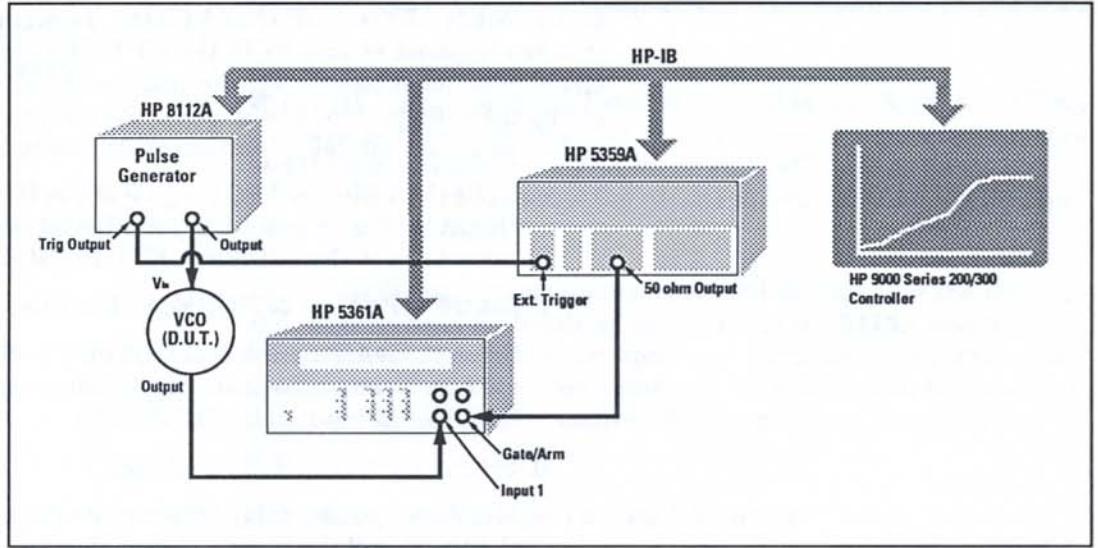

FIGURE 6. Measurement Set-Up Block Diagram
■ The automatic measurement system for performing VCO characterization, as shown in Figure 6 (next page), includes the following instruments:
■ Connect the test equipment as shown in Figure 6. The following is a step-by step guide to connecting and running the system to perform VCO characterization.